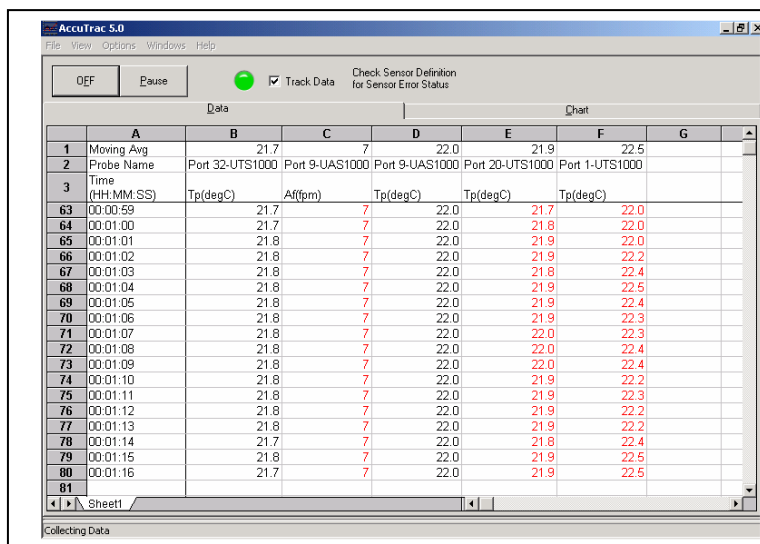

Figure 6.7: Main data collection screen
6.7.1 Upon start-up, Accutrac will open to the main data collection screen (Figure 6.7). This screen is set up in a spreadsheet format, and will collect the data during a collection run.